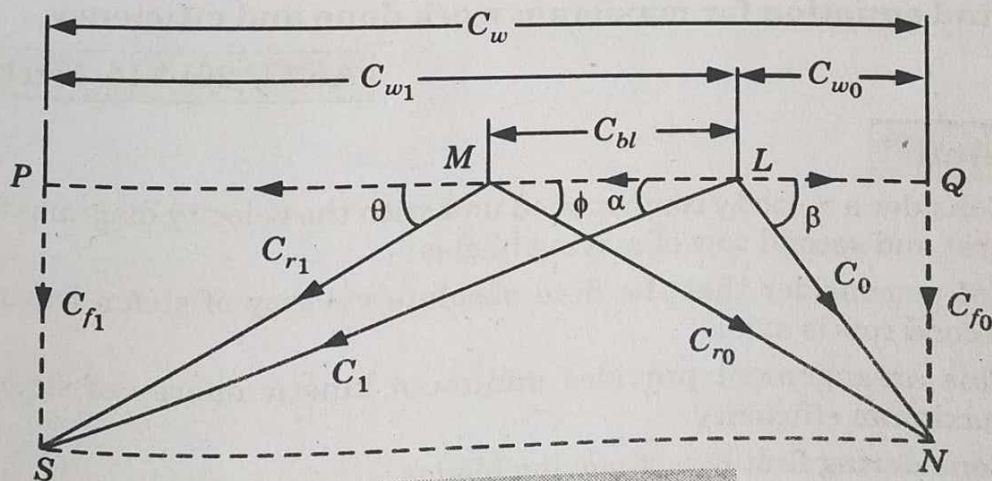

Fig. 4.18.1. Velocity diagram.
2. From Fig. 4.18.1,
3. From Fig. 4.18.1,